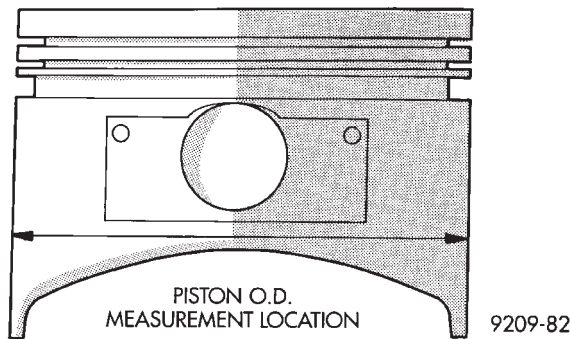

Fig. 4 Measure Piston
(1) Bore to specified clearance between the piston O.D. and cylinder. The measuring point of the piston O.D. is shown in (Fig. 4).
(2) Based on measured piston O.D., calculate boring finish dimension. Boring finish dimension equals piston O.D. plus 0.03 to 0.05 mm (.0012 to .002 inch) (clearance between piston O.D. and cylinder) minus 0.02 mm which is the boring margin.
(3) Bore all cylinders to calculated boring finish dimension. Then bore the final finish dimension (piston O.D. plus cylinder clearance).
(4) Check clearance between piston and cylinder, clearance should be 0.02 to 0.04 mm (0.0008 to 0.0016 inch).